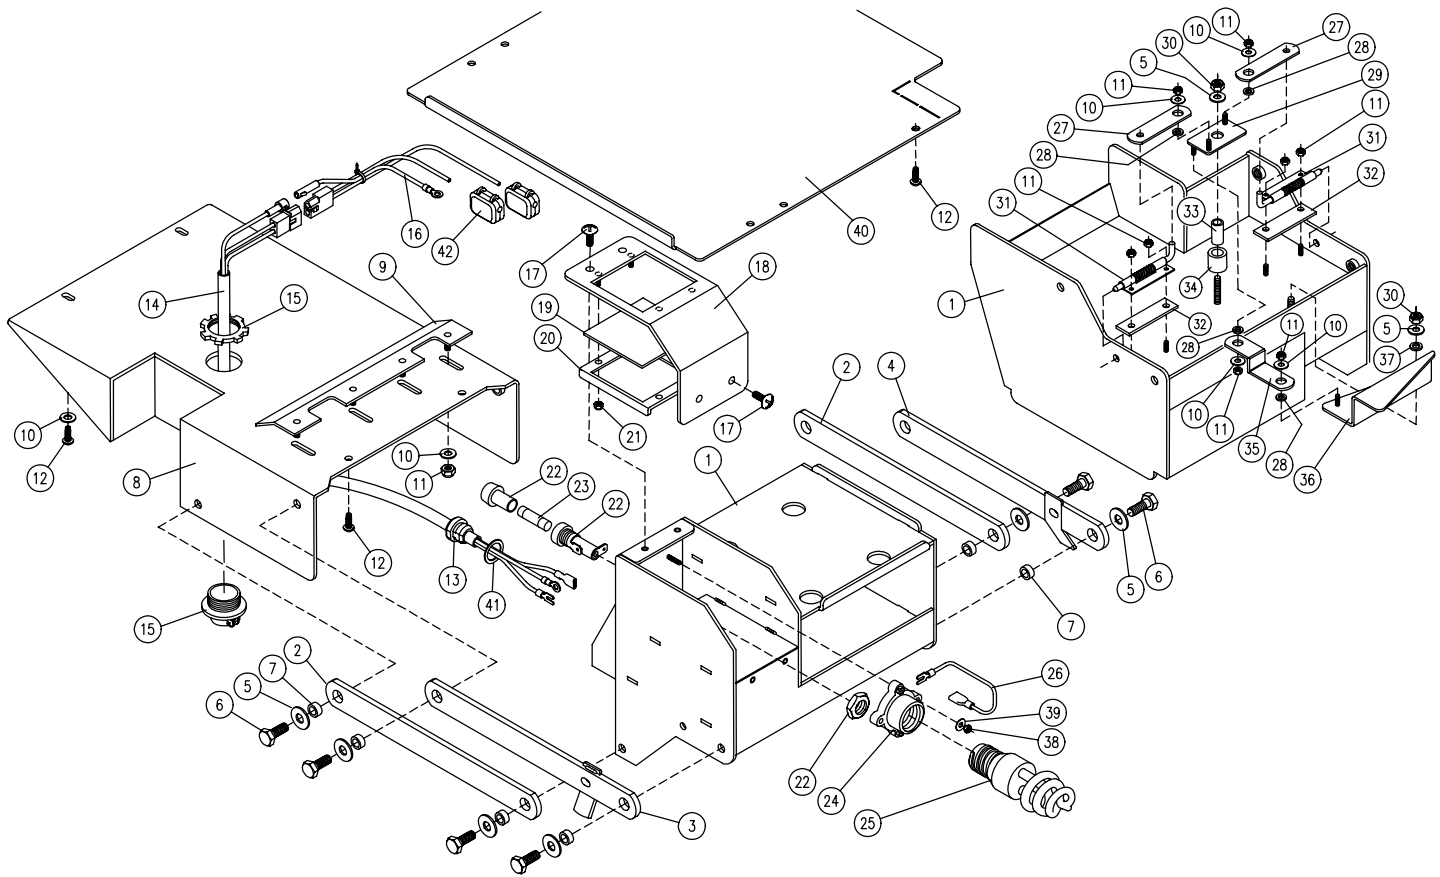

**Figure 4**
9. Install the new Table Cover on the bottom of the table using four Philips Pan Head 10-24 x 3/8" Type F screws (see Figure 4).